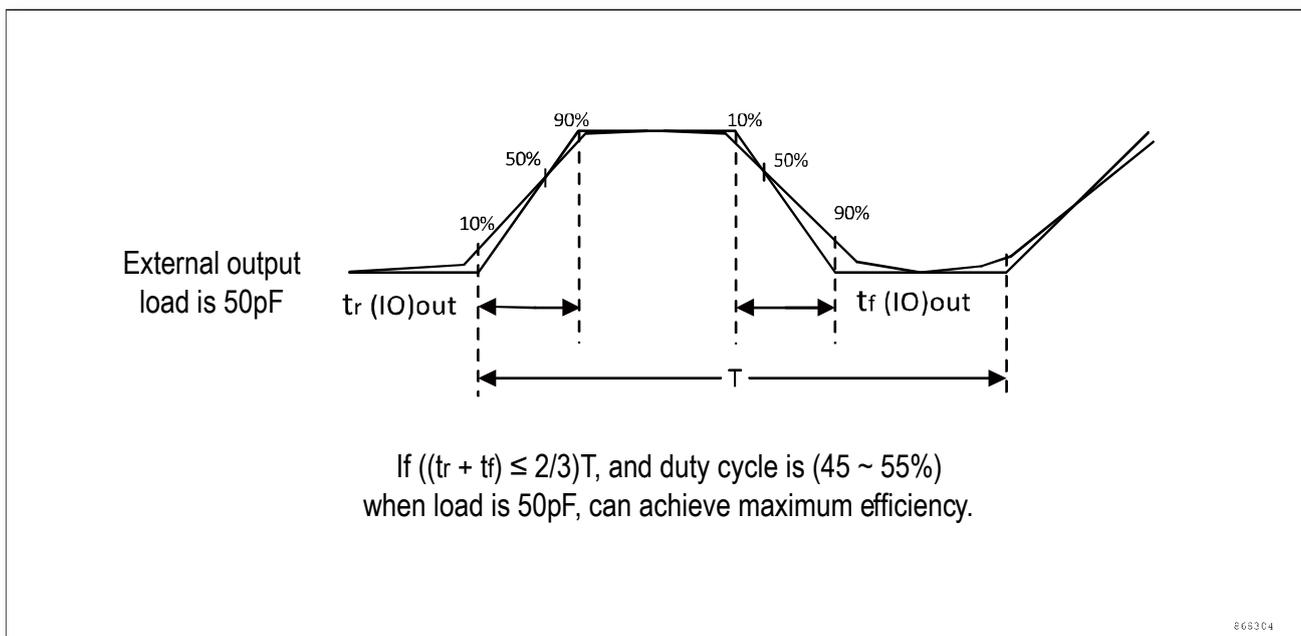

Figure 5-8 I/O AC characteristics
2. The maximum frequency is defined in Figure 5-8.